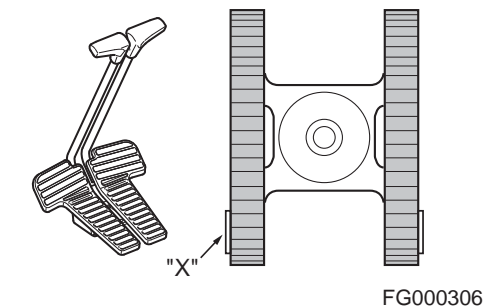

Figure 30
4. Stopping travel (Figure 30) - Returning travel levers to "NEUTRAL" position will automatically apply brakes and stop forest machine.